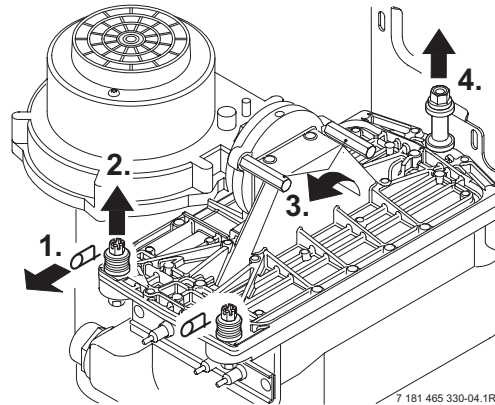

Fig. 50
- Remove the clips (1) and unscrew the two bolts (2). Refer to fig. 50.
- Unscrew and remove the two hexagon screws securing the fan (3).
- Slacken fully the rear securing bolt (4).